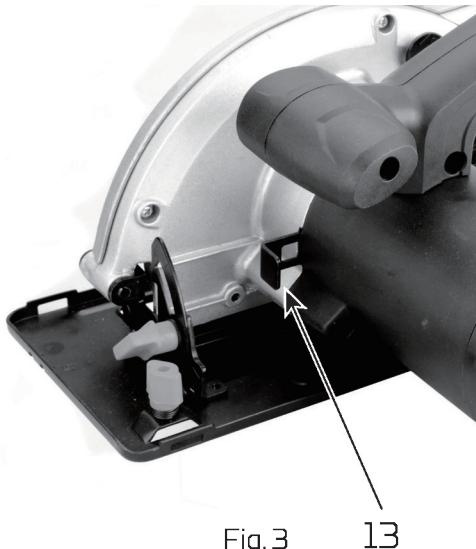

Fig. 3 13
2. Push the spindle lock button [13] toward motor housing as the arrow shows in fig. 3 and firmly hold it.